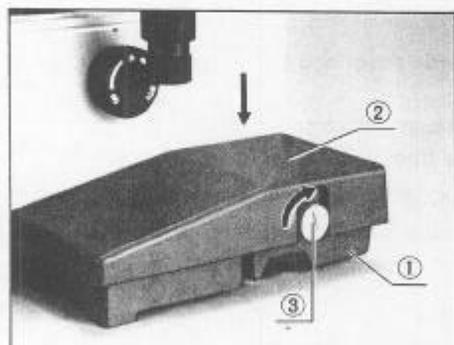

Fig. 17
⑯ Attaching the Hand Rests
Attach the hand rests ② on the right and left sides ① of the microscope base, clamp knobs 3 with a coin. (Fig. 17)